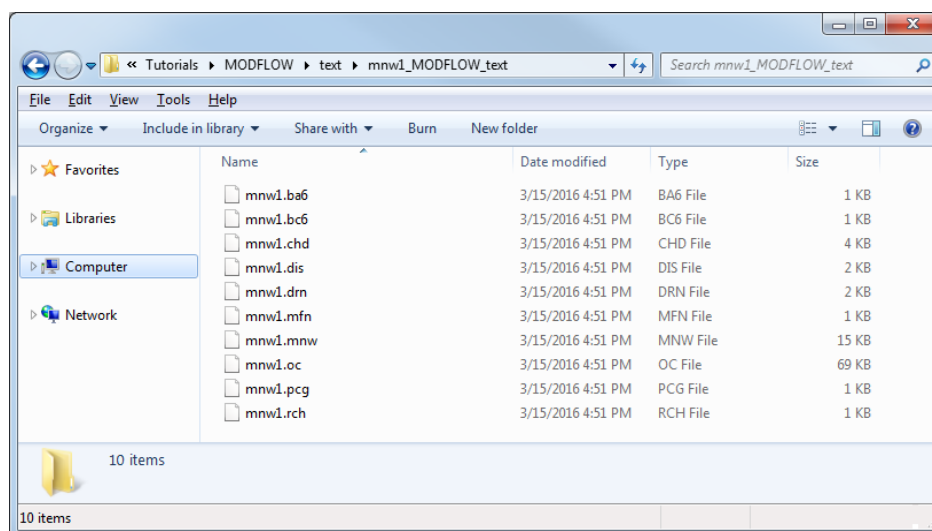

Figure 7 Native text MODFLOW files saved From GMS
2. Browse to the *text\text\mnw1_MODFLOW_text* directory to bring up the MODFLOW native text files (Figure 7).